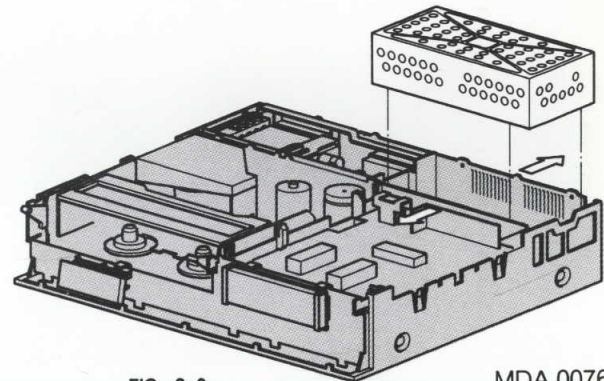

FIG. 2-3
- Press the cabinet parts in front of and behind the power supply slightly outwards. Then the entire power supply P018 can be removed from the cabinet (see Fig. 2-3).